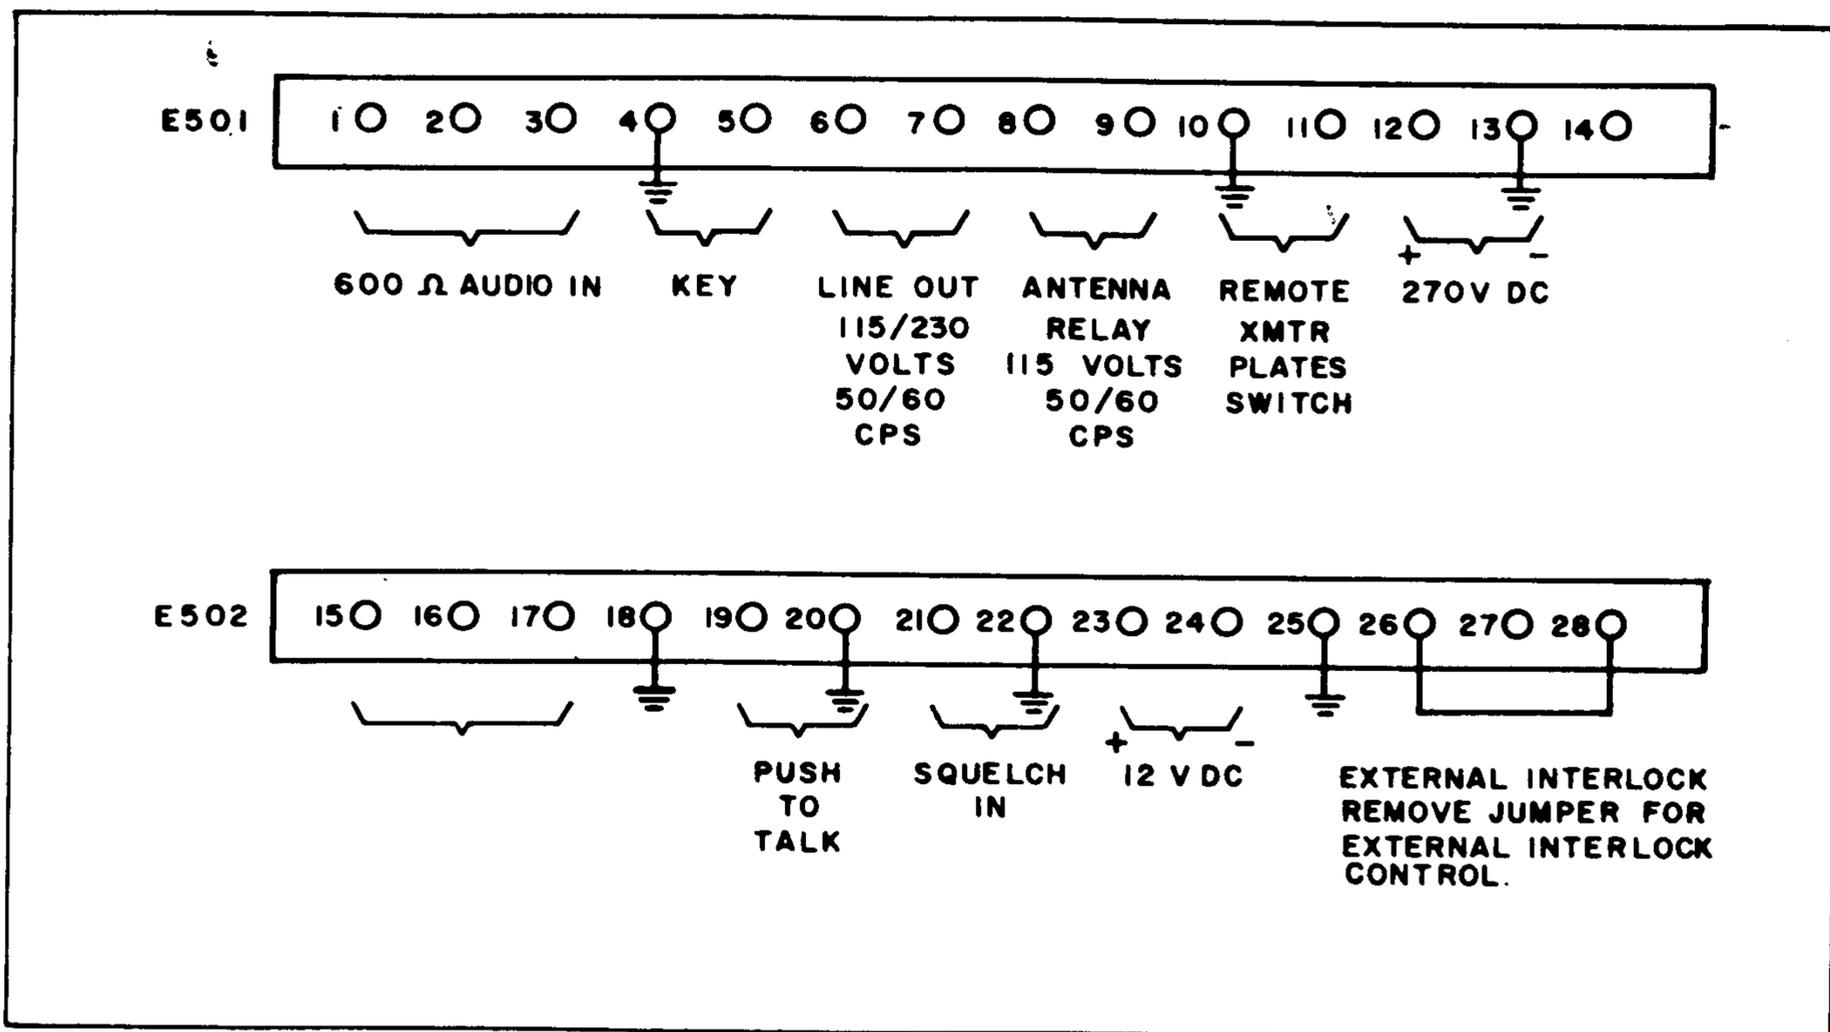

Figure 2-3. Cabinet Frame Assembly, CAB-7, Terminal Board Connections
Step 21. The installation connections to terminal boards E501 and E502 on the rear of the cabinet are shown in figure 2-3.